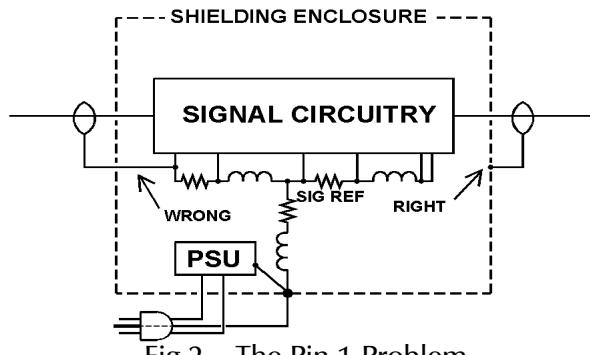

Fig 2 – The Pin 1 Problem
**The Pin 1 Problem:** The most common way that hum, buzz, and RF interference enters equipment is via a design defect first widely understood by the pro audio community thanks to the work of Neil Muncy, (ex-W3WJE). He named it "the pin 1 problem," because it is a mis-wiring of the shield of audio cables – pin 1 in the XL connector commonly used for pro audio, but it is just as much a problem in unbalanced interfaces of all types, as shown in Fig 2.
Fig 2 illustrates both right and wrong connection of the shield. The trouble-free connection on the right goes straight to the shielding enclosure, so shield current flows harmlessly out the safety ground on the power cord. Any noise (or RF) on the cable shield stays "outside the box."
methods are obvious – modify the equipment to eliminate the pin 1 problem, or rewire the connections so that the shield goes to the proper connection point, as shown in Figs 2, 3a, and 3b. Unfortunately, the way that most equipment is built usually makes both of these methods difficult or impossible to implement.